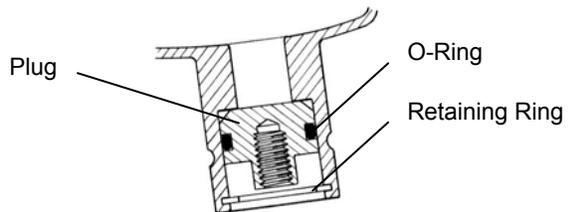

Figure 39 • CHC Dewar Pump Out Port
- Remove the retaining ring from the port if there is one present (see Figure 39) using retaining ring pliers.